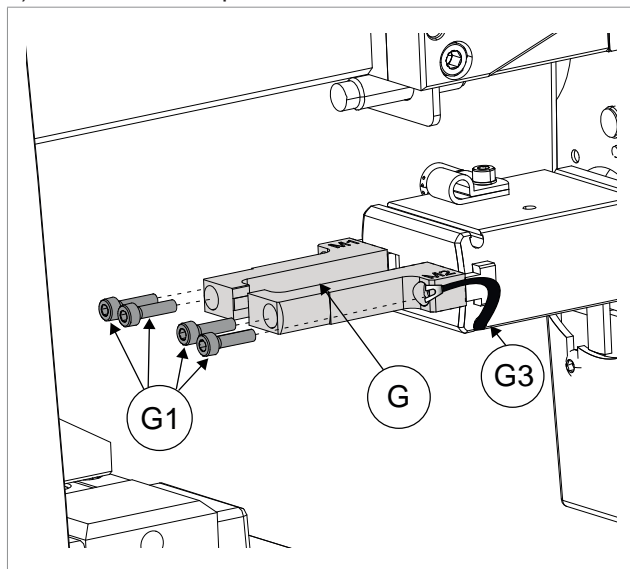

Fig. 99
- 2) Remove the 4 screws (G1) (Fig. 99)